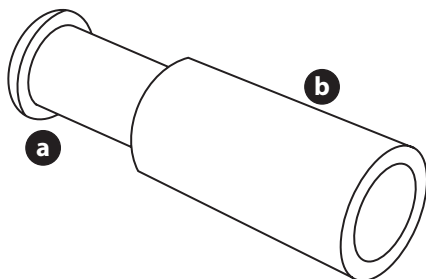

Figure 38
- Remove the inner filter (a) from the paper element (b) (Figure 38).